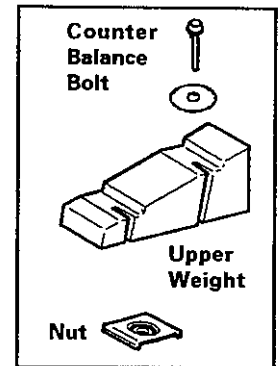

Figure 7-11
**NOTE:** The bolts screw into two nuts below the weight, under the tub mounting pad (Figure 7-11).